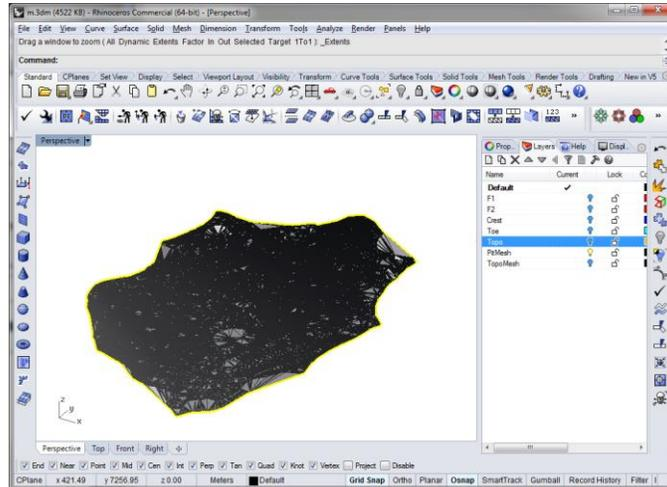

Figure 147: Duplicating the pit border.
1. **Hide** all layers. In the **Layers Panel**, turn on the **PitMesh** layer. Select the mesh and, **Curve|Curve from Objects|Duplicate Border**. This is the boundary of the pit (Figure 147).